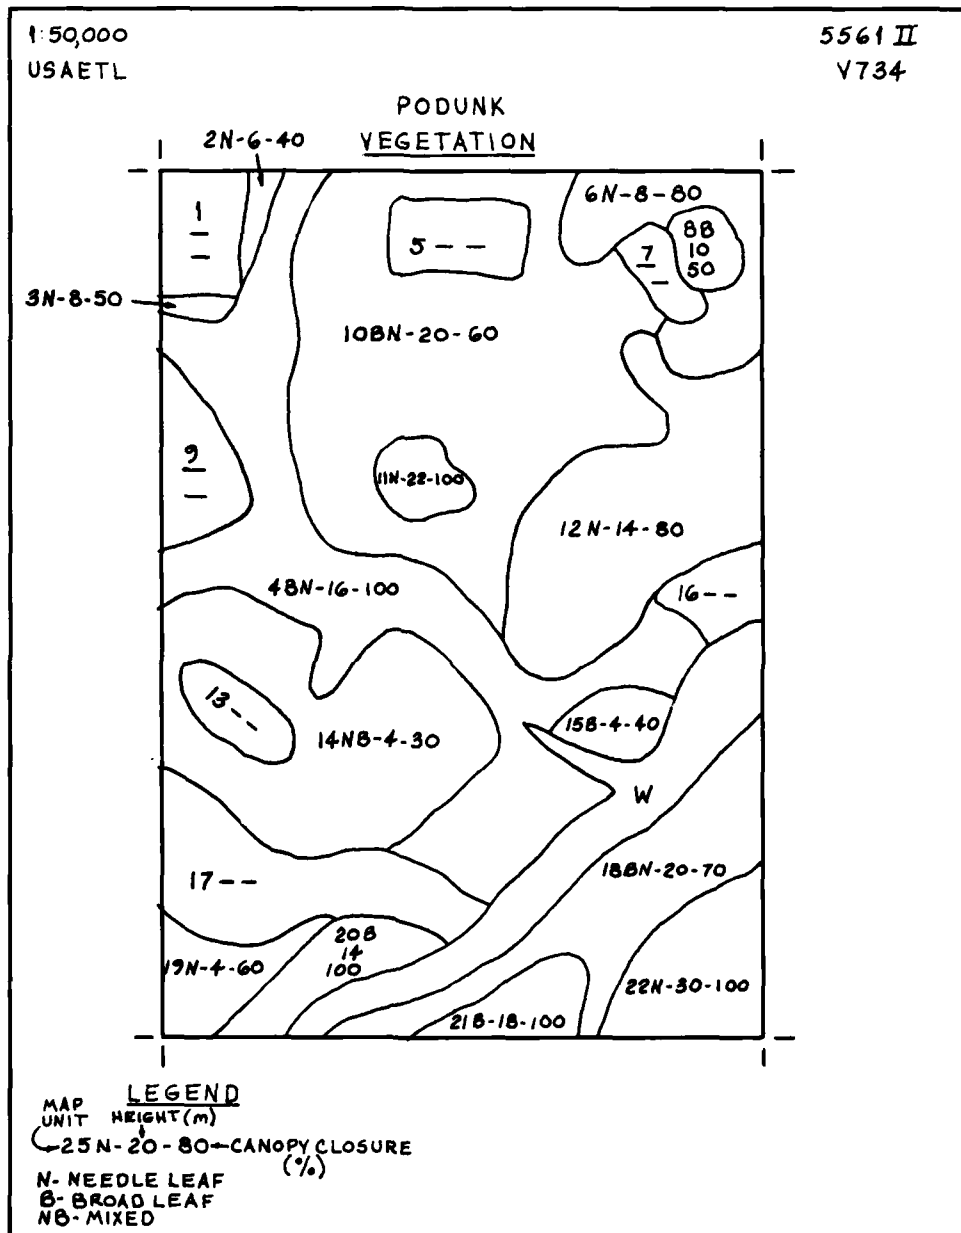

Figure 10. Sample Vegetation Factor Overlay
a. Remove the mylar sheet (which will now be called the Complex Overlay). Pull the Vegetation Factor Overlay (figure 10) out of the Data Base. Put the Complex Overlay on top of the Vegetation Overlay. Pin-register (or match corner ticks and tape the sheets together).